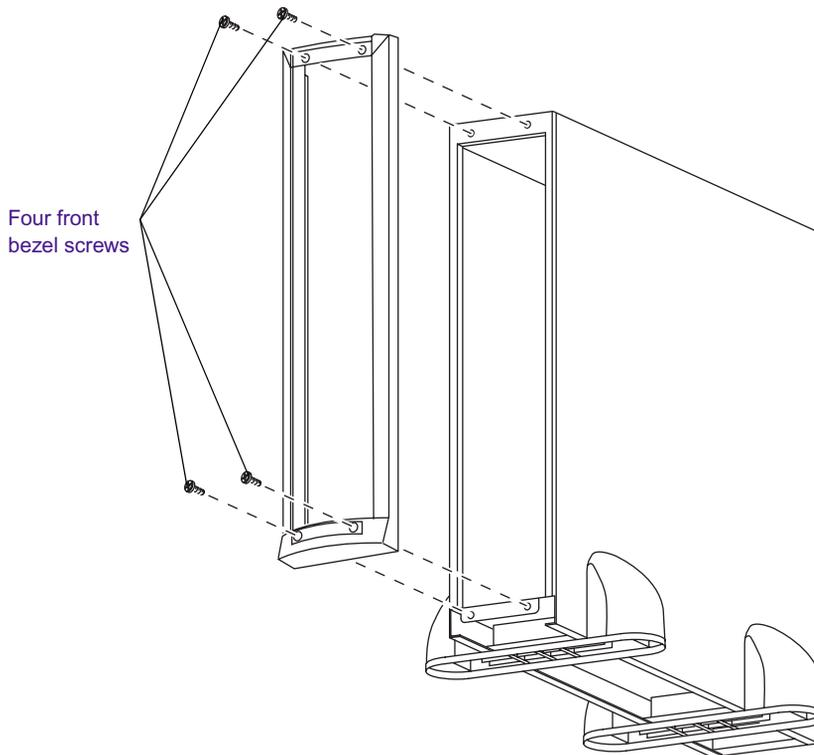

Figure 50 Tower Bezel Screws
Unpack the tower kit, which ships in one piece. The two floor stands are mounted to the base of the enclosure. The front bezel of the tower is attached to the front but is temporarily removed to insert the MediaDock Ultra320. Figure 50 shows how it is separated. Top and bottom MediaDock Ultra320 labels are also included.
1. Remove the four front bezel screws (see Figure 50).